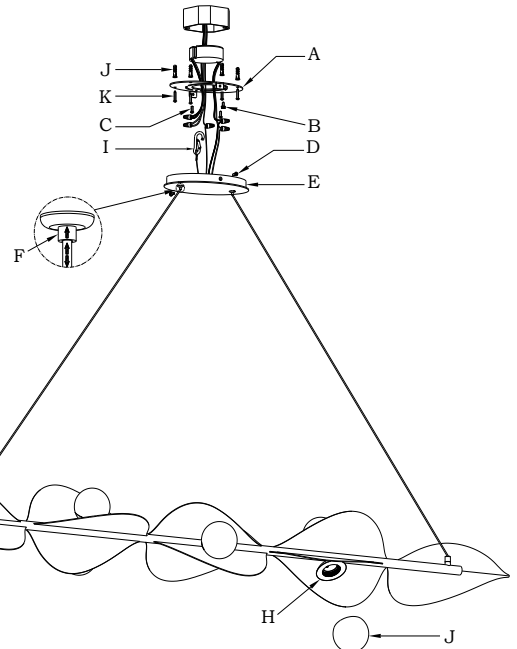

Fig.2
CONNECTION THE WIRES (Fig.1 & Fig.2 & Fig. 3)
6. Connect the white input wire from the driver to the white wire from the junction box. Connect the black input wire from driver to the black wire from the junction box. If your junction box has a ground wire (green or bare copper), connect the fixtures ground wire to it. Otherwise, connect the fixture ground wire directly to the mounting plate (A) using the green screw (B) provided.
7. Pull out black/red output wire of driver through the center hole of mounting plate (A). Attach the mounting plate (A) to the junction box (not included) using mounting screws (C) (Size: 8-32*1/2"L). The side of the mounting plate marked "GND" must face out.
8. Place the wood screws (K) through the holes of the mounting plate (A) and lock into the drywall anchors (J) to secure the mounting plate (A) to the ceiling.
9. The support cable is provided to support weight of fixture while wiring. Align fixture to mounting plate (A) and attach hook (I) on end of support cable into a slot located on mounting plate (A). Carefully allow support cable to support weight of fixture while wiring.
10. Connect the red output wire (marked output +) from driver to the red input wire (marked LED +) from the led module. Connect the black output wire (marked output -) from driver to the black input wire (marked LED -) from led module. See Fig. 2, make sure that all wire connectors are secured.